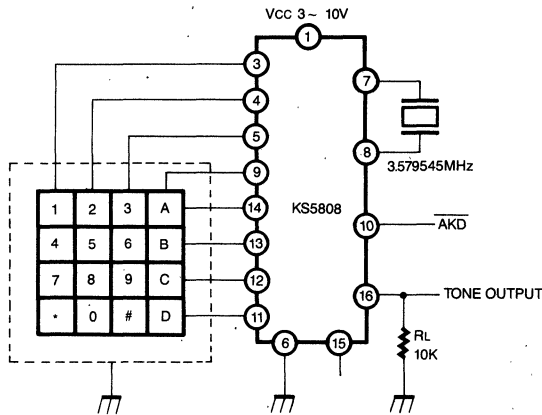

Fig. 2
- Note: 1. Single-tone, low-group. Any  $V_{CC}$  between 3.4V and 3.6V, odBm=0.775V,  $R_{LOAD} = 10K$  see test circuit Fig 2.